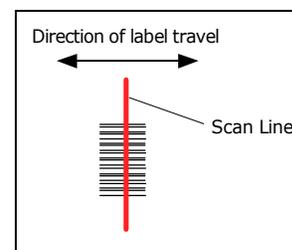

Figure A-8 Ladder
2. Locate pins or wires that have continuity to pins4 and8 on the back of the scanner (see figure A-8 on page A-27). If using an IB-131, locate pins 7 and 11 on the host connector (see Table A-3 on page A-5).